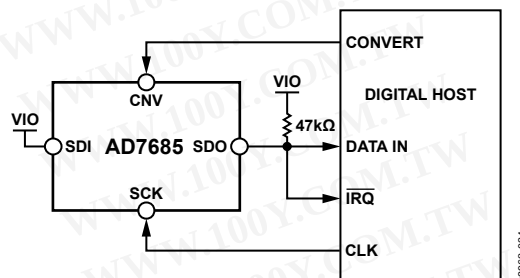
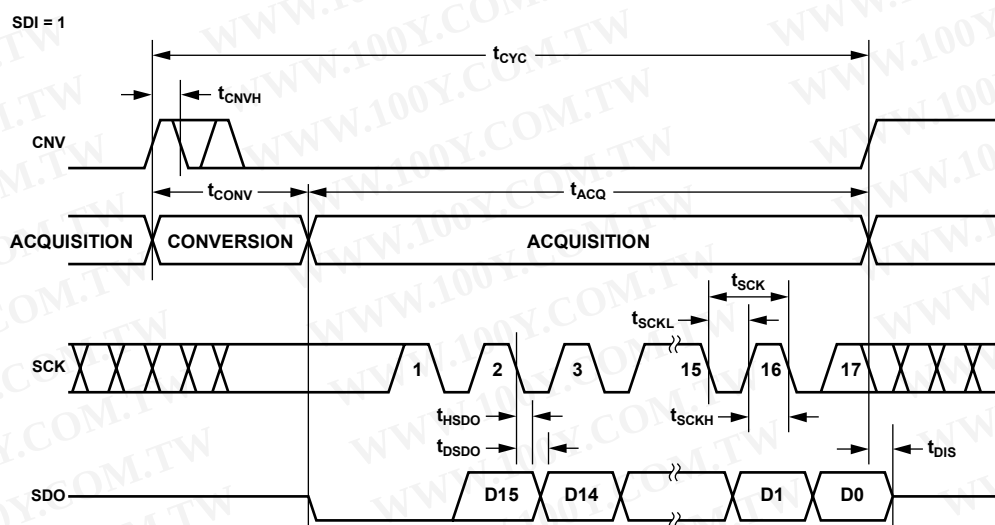
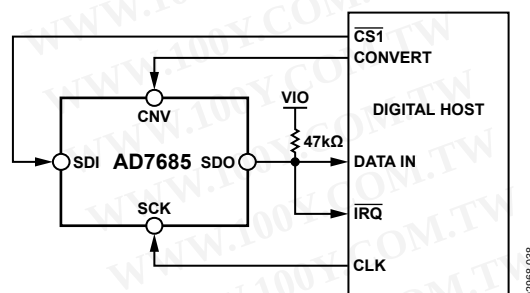
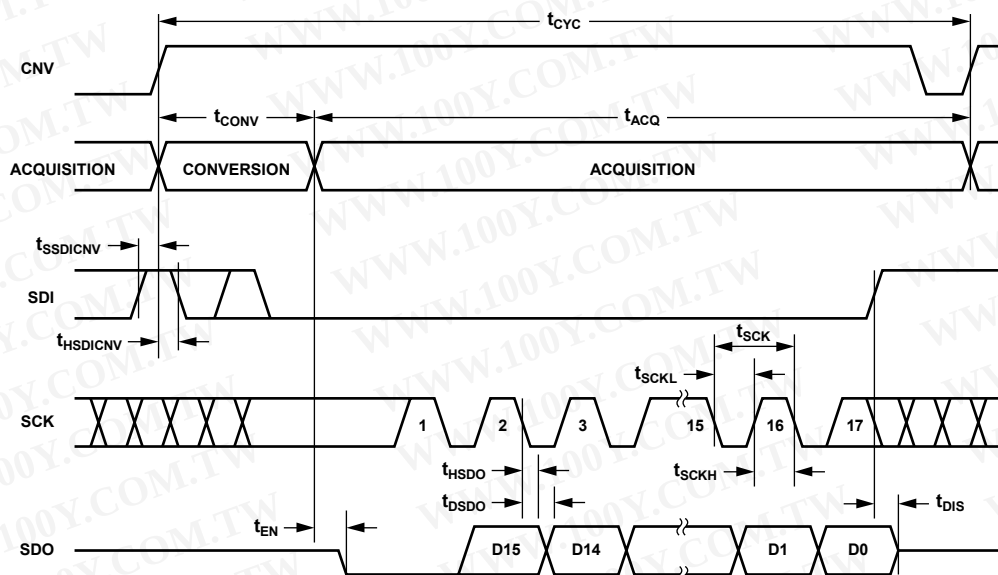

Figure 36. $\overline{CS}$ Mode 3-Wire with $BUSY$ Indicator Connection Diagram (SDI High)
Figure 37. $\overline{CS}$ Mode 3-Wire with $BUSY$ Indicator Serial Interface Timing (SDI High)
Figure 40. CS Mode 4-Wire with BUSY Indicator Connection Diagram
Figure 41. CS Mode 4-Wire with BUSY Indicator Serial Interface Timing
- In the $\overline{\text{CS}}$ mode, if CNV or SDI is low when the ADC conversion ends (see Figure 37 and Figure 41).
The connection diagram is shown in Figure 36, and the corresponding timing is given in Figure 37.
The connection diagram is shown in Figure 40, and the corresponding timing is given in Figure 41.